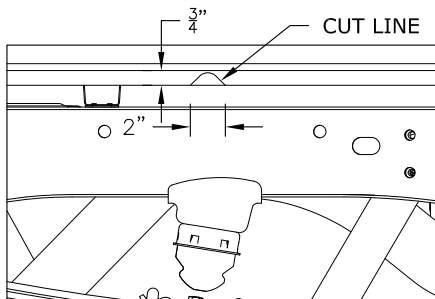

FIGURE A4: V-Shaped notch
1. **Modify bed flange.** Cut a notch in the bed flange just above the frame in the passenger side rear wheel well, as shown in figure A4. This notch is required for installing the hitch cross members.